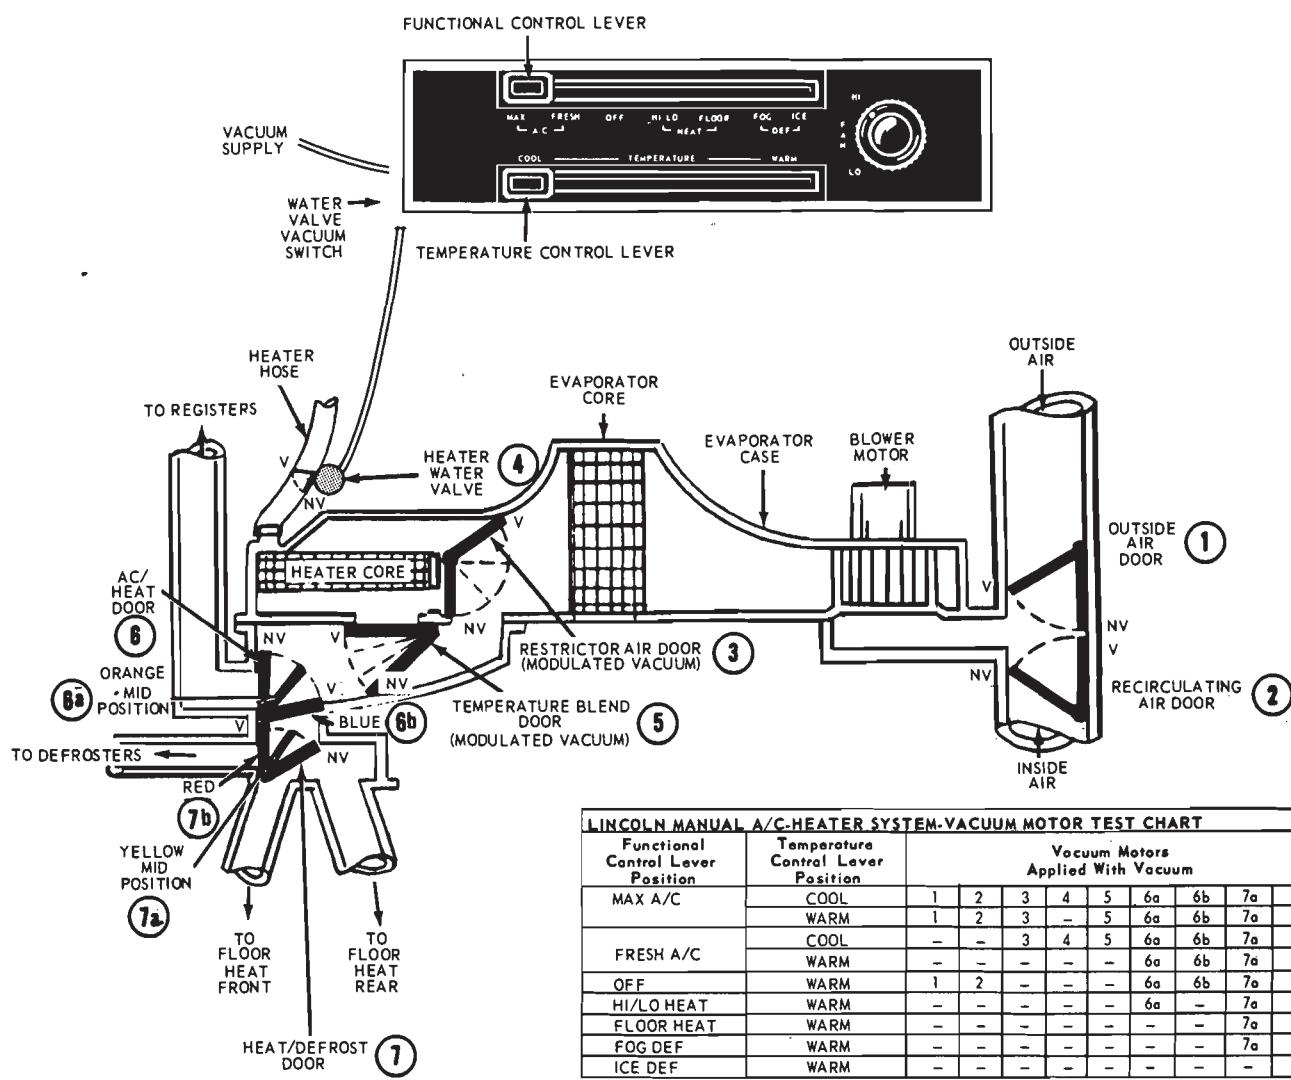

FIG. 27—Manual A/C-Heater Blend Air System Schematic—Lincoln Continental
The test chart in Fig. 27 will deter-
mine which vacuum motor should be functioning with applied vacuum during the various functional lever and temperature control lever positions at the manual AC/Heater system control assembly on the instrument panel. Check for proper operation by following the charts (Figs. 27 and 28) along with the descriptions that follow:
A modulated vacuum from the temperature regulator valve (Figs. 27 and 28) is supplied to the Restrictor Air Door (3) and Temperature Blend Door (5). The amount of vacuum increases as the temperature control lever is moved toward the COOL position. The Restrictor Air Door (3) will block the air going to the heater core and the Temperature Blend Door (5) will block the air coming from the heater core when maximum vacuum
(lower) in **COOL** position, the Restrictor Air Door (3) and Temperature Blend Door (5) restrict the passage of air through the heater core (vacuum), the Heater Water Valve (4) is closed (vacuum) and cool air is discharged through the registers, floor outlets or defrosters. As the lever is moved toward **WARM** the water valve vacuum switch is released and the Heater Water Valve (4) is opened (no vacuum), the Restrictor Air Door (3) and Temperature Blend Door (5) vacuum motors are modulated (partial vacuum) allowing air through the heater core to be mixed with cool air and discharged through the plenum outlets. In the **WARM** position (no vacuum), all air passes through the heater core to provide maximum discharge air temperature. Refer to Figs. 27 and 28.
In **MAX A/C-COOL** control positions, air is drawn into the system by the blower from inside the vehicle through the Recirculating Air Door (2) (Vacuum) in the right cowl side panel and the Outside Air Door (1) in the cowl air intake is closed (vacuum). The air is then forced through the evaporator core, the Restrictor Air Door (3) closes off air through the heater core (vacuum), the Temperature Blend Door (5) is in the maximum cool position (Full vacuum), and all air by-passes the heater core, and the water valve is off (vacuum). The AC/Heat Door (6) is in the fully closed position (6a and 6b vacuum) and cooled air is discharged through the four registers. Refer to Fig. 27.